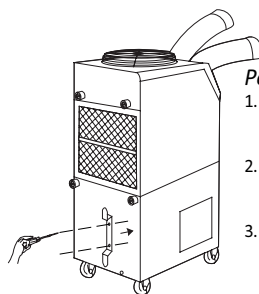

Figure 15 – Power Cord Holder attachment
2. Place the power cord holder on the rear of the unit as shown in Figure 15.